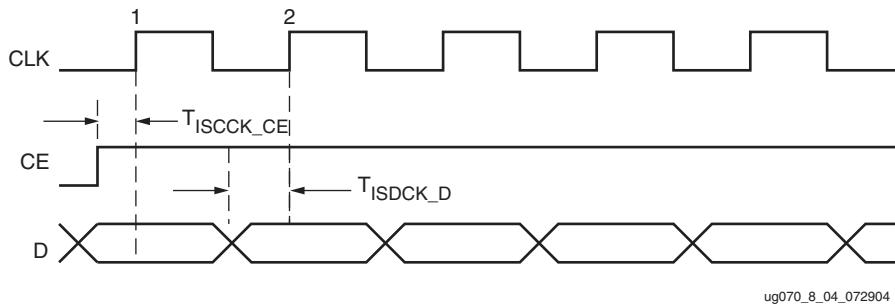

Figure 8-9: ISERDES Input Data Timing Diagram
In the timing diagrams of Figure 8-9, the timing parameter names change for different modes (SDR/DDR). However, the names do not change when a different bus input width, including when two ISERDES components are cascaded together to form 10 bits. In DDR mode, the data input (D) switches at every CLK edge (rising and falling).
Figure 8-9 illustrates an ISERDES timing diagram for the input data to the ISERDES in SDR mode.